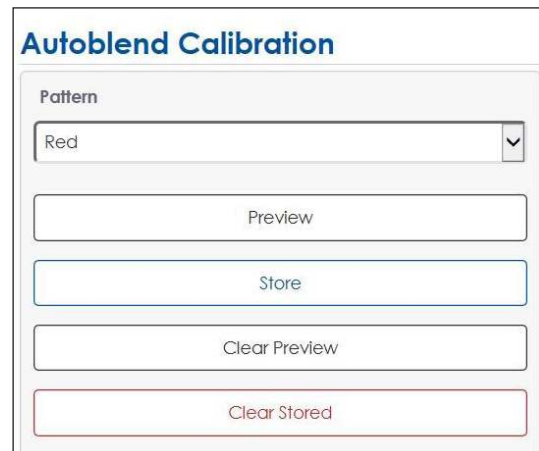

Figure 99: Output Color Patterns
3. Choose a display output color from the **Pattern** drop-down list to view the display's current color calibration and evaluate the need for automatic module adjustment. Refer to **Figure 99**.